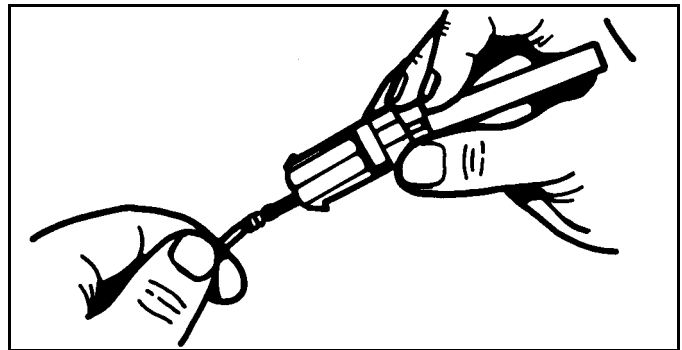

Figure 3-9
4. Hold the removal tool fully seated and pull wire from connector body. (See Figure 3-9)